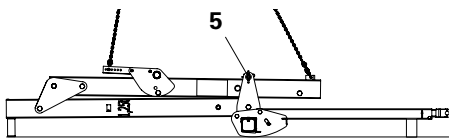

Fig. 13
- Remove lifting chain and attach crane lifting chains, (Fig. 13 – 15) or
1. Pull cotter pin and remove pin (5). (Fig. 13)